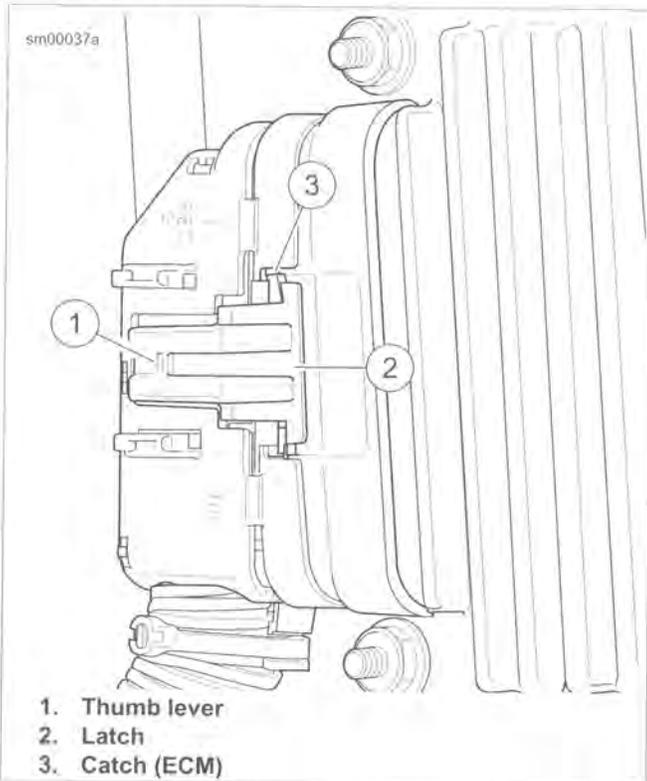

Figure A-11. Delphi 100W Micro-Pack Sealed Connector to ECM
See Figure A-11. While pressing the connector into the ECM, press the thumb lever (1) against the connector until the latch (2) pops out of the catch (3) on the ECM.